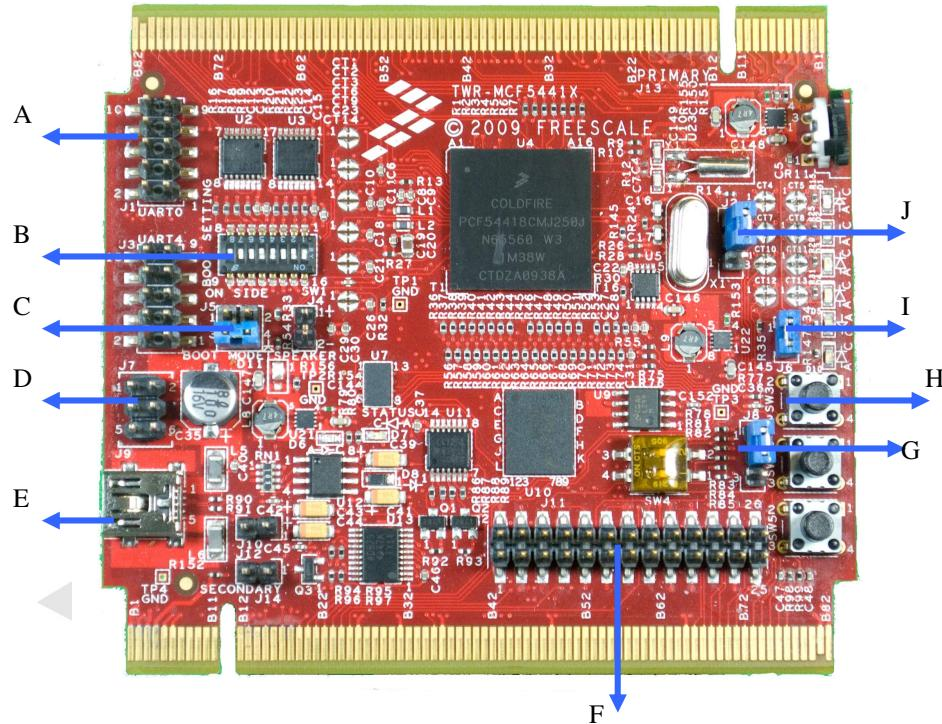

Figure 1 - TWR-MCF54418
- Shunt 2-3 of J2 (See J of Figure 1 - TWR-MCF54418) for 25 MHz input clock from onboard crystal.
- Shunt 3-4 only of J5 for external RCON boot mode (See C of Figure 1 - TWR-MCF54418)
- Setup SW1 (See B of Figure 1 - TWR-MCF54418) boot settings. On - 0 (active low), and off - 1 (high). SW1[1:8] should set to Pin 1 - {0,1,0,1,1,0,1,1} - Pin 8.
- Connect Serial Adaptor (2x5 Pin connector – DB9 Female) to UART0 of J1 (See A of Figure 1 - TWR-MCF54418)
- Connect USB Cable (Type A – Mini B plug) to Power source such as PC Host or USB power adaptor and to USB mini B receptor of J9 (See E of Figure 1 - TWR-MCF54418)
- Press SW3 (See H of Figure 1 - TWR-MCF54418) to reset the board.
- Shunt 1-2 of J2 (See J of Figure 1 - TWR-MCF54418) for 50 MHz input clock from TWR-SER1 or TWR-SER2 .
- Setup SW1 (See B of Figure 1 - TWR-MCF54418) boot settings. On - 0 (active low), and off - 1 (high). SW1[1:8] should set to {0,1,0,1,1,0,0,0}.